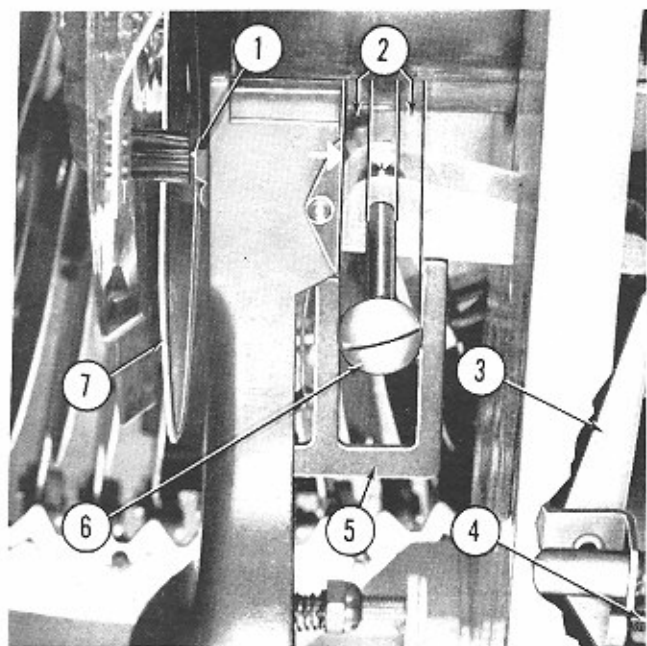

Fig. 80. TONE ARM LATCH BRACKET CLEARANCE
v. Tone Arm Latch Bracket Clearance. (Fig. 80)
When the tone arm is released for compliance with the record grooves, the clearance (Item 2, Fig. 80) should be equal on both sides of the feed-in adjusting screw (Item 6). Adjustment may be accomplished as follows:
(1) Advance the cycle of the record changer only until the turntable clamps have actuated, and then turn off the power.
(2) Operate the record clamp manually by pulling back on the record clamp plate, and clamp record disc X42226, face to the rear, on the turntable.
(3) Manually advance the cycle of the record changer by turning the motor shaft counter-clockwise until the tone arm is completely released for compliance with the record grooves. The tone arm latch bracket should be entirely free from the feed-in adjusting screw as shown in Figure 80.